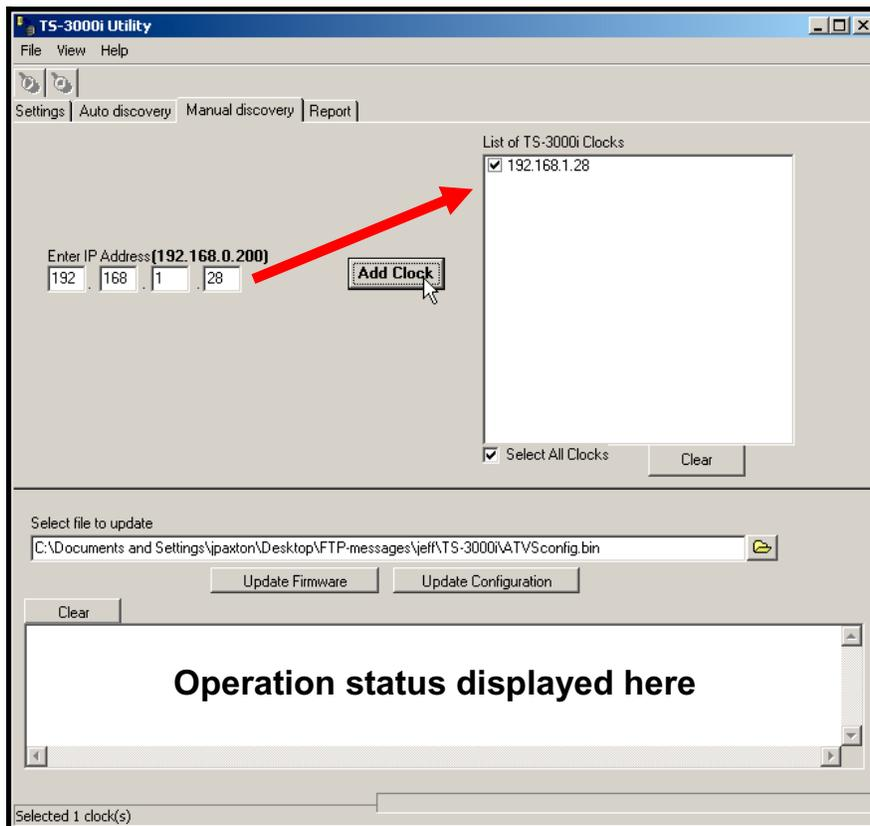

Figure 5-12: Manual Discovery Download
- Step 1.** With the **Advanced settings** open, click on the **Manual discovery** tab, enter the IP Address for the desired clock, and press the  button to add the clock to the list of TS-3000i clocks (see *Figure 5-12*). Use this same procedure to manually add other TS-3000i clocks to the list.